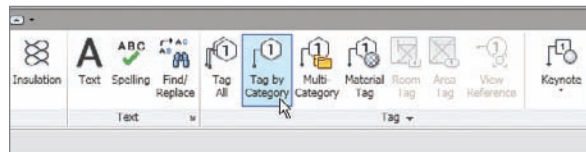

FIGURE 11.61 Click Tag By Category on the Annotate tab.
3. On the Tag panel of the Annotate tab, click the Tag By Category button, as shown in Figure 11.61.